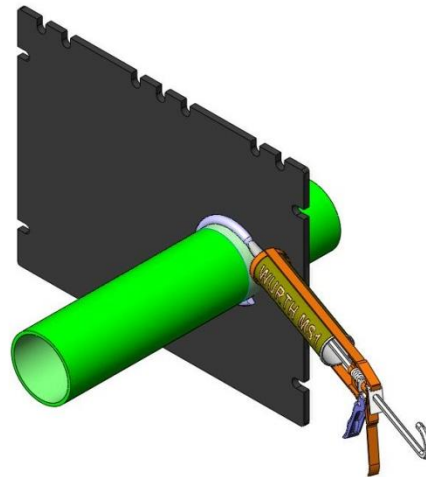

Fig 5a
5. Mark and cut the polypropylene duct entry panel to suit duct work. Cut the duct entry holes through the polypropylene panels using a jig saw or hole saw approximately 5mm larger than the duct. Seal the duct to the polypropylene panels using Wurth MS1 epoxy mortar. Ref Fig 5a (*refer Price List for Epoxy Mortar*).